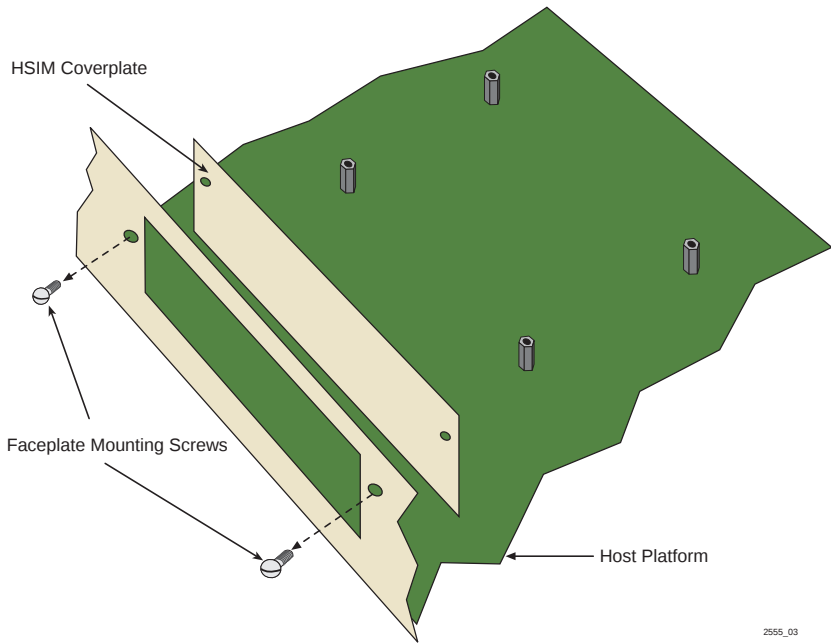

Figure 2-1 Removing the HSIW Coverplate
5. Remove and save the two faceplate mounting screws securing the HSIM coverplate and remove the coverplate. See Figure 2-1.
5. Refer back to **Figure 2-1** and remove the two faceplate mounting screws and the HSIM coverplate. Save the screws.